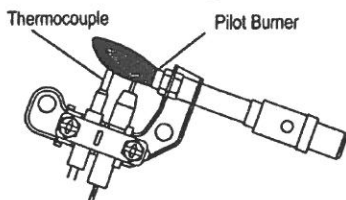

Figure 18 -Correct Pilot Flame Pattern
5. Wait five (5) minutes to clear out any gas. Then smell for gas, including near the floor. If you smell gas, STOP! Follow "B" in the safety information, page 12, column 1. If you don't smell gas, go to the next step.
6. Turn control knob counterclockwise to the PILOT position. Press in control knob for five (5) seconds (see Figure 18).